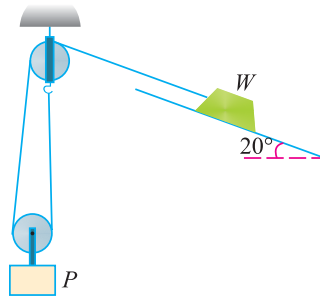

Fig. 16.24.
- A block of weight ( $W$ ) rests on the smooth surface inclined at  $20^\circ$  with the horizontal. The block is supported by an effort ( $P$ ) hung from a pulley as shown in Fig. 16.24.